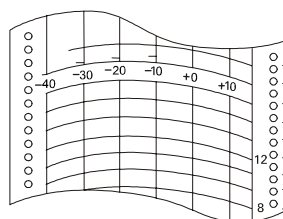

Fig. 1
1. The information on the recording paper is shown in Fig. 1.